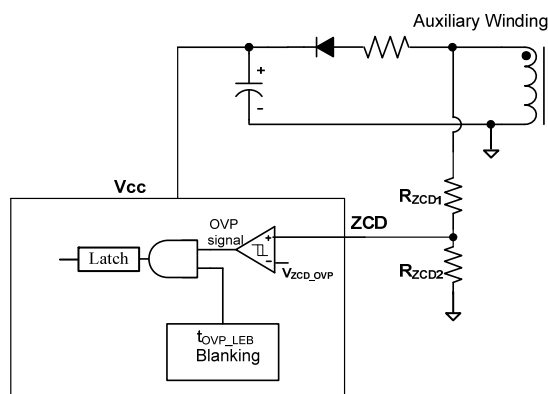

Figure 7—OVP sampling circuit
Output over-voltage protection (OVP) prevents the components from over-voltage damage. The voltage of the auxiliary winding positive plateau is proportional to the output voltage, so the OVP block monitors this auxiliary winding voltage to apply an OVP function (see Figure 7). Once ZCD voltage exceeds  $V_{ZCD\_OVP}$ , the OVP signal is triggered, the gate driver turns off, and the IC works in quiescent current mode. When the VCC voltage drops below the UVLO threshold, the IC shuts down and the system re-starts. The output OVP set point is calculated with Equation (2):